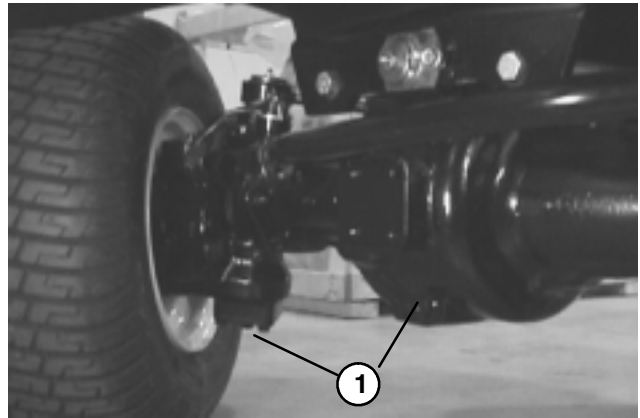

Figure 45
CHANGING REAR AXLE LUBRICANT (Fig. 45)
2. Clean area around the (3) drain plugs, (1) on each end and (1) in the center (Fig. 45).